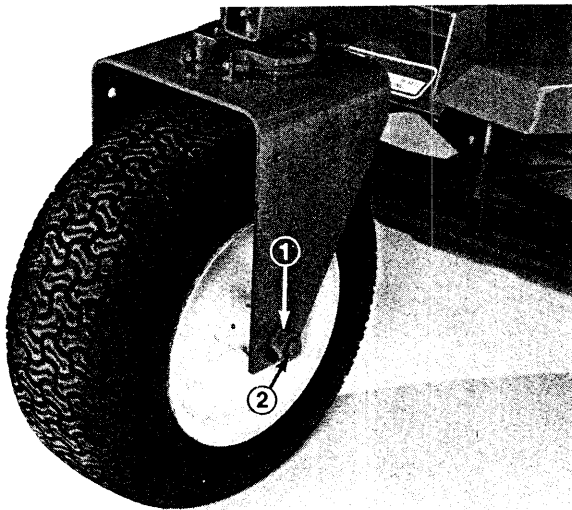

Figure 2
3. Install rear wheel and spacers into caster fork and insert caster axle into fork, spacers and wheel. Secure the assembly with a locknut (Fig. 2).